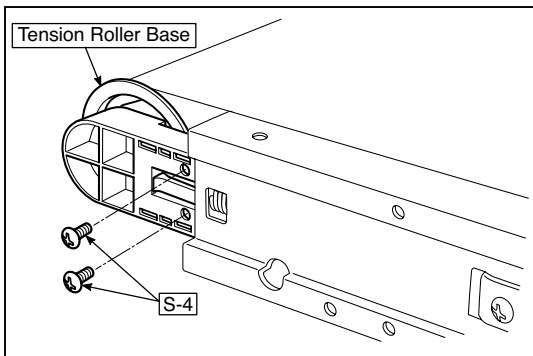

Fig.28
3. Remove the stopper "S-4" screws in the (two upper and lower) Tension Roller Bases shown in the figure 28.